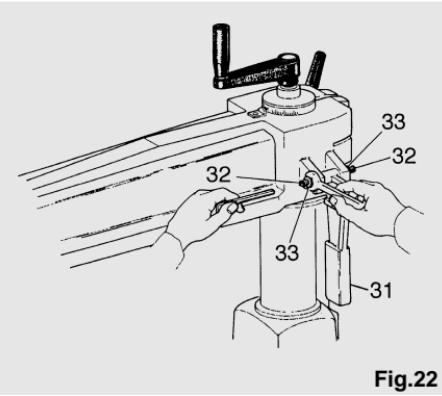
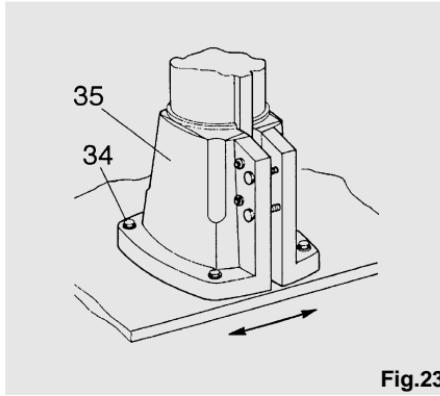

Fig.22
Fig.23
- Raise the arm locking handle (31) (see figure 22).
- Turn adjusting grub screws (32) so as to move the lever and eliminate the defect.
- Lower the wedge lever again and tighten lock nuts (33).
If the defect cannot be eliminated with the adjusting screws, loosen screws (34) (see figure 23) of base (35) and turn it slightly.